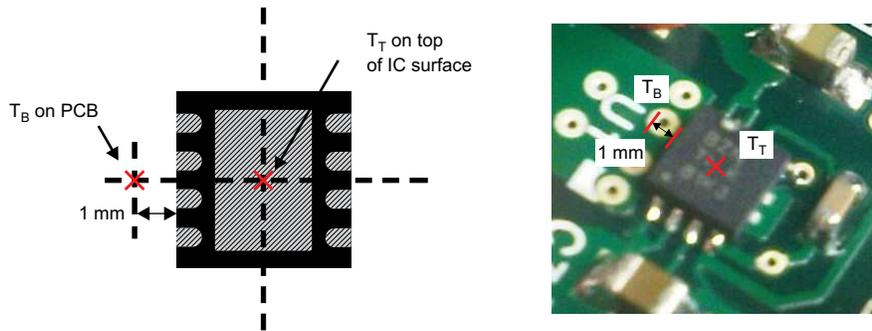

Figure 46. Measuring Points for T_T and T_B
- T_B is the PCB temperature measured 1-mm away from the IC package *on the PCB surface* as shown in Figure 46 (6)